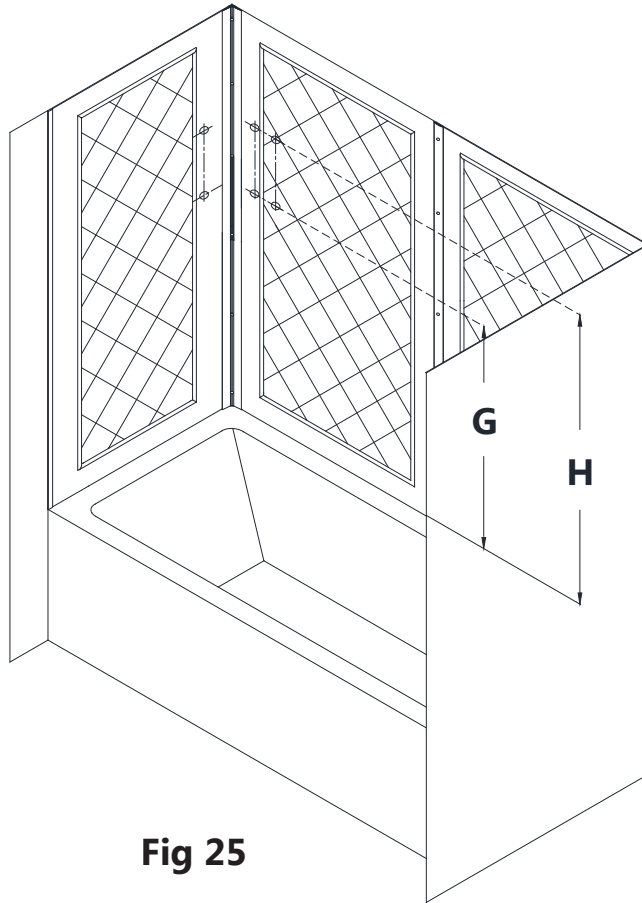

Fig 25
25. Determine the preferred height for the **Glass Shelves (#09)** and mark the locations on the wall. (Fig 25)